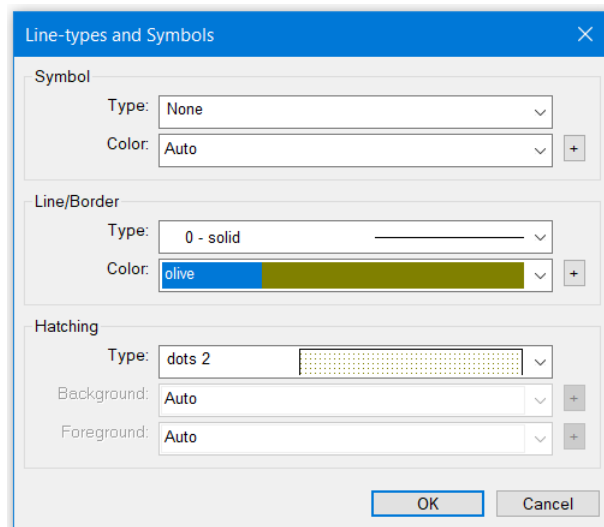

Figure 21-5: The *Line-types and Symbols* Dialogue Box Allows the user to Change Line Style (including symbols), Hatch Style and Color
9. Back in the *Template Display Format* dialogue, press the *Linetypes...* button on the right-hand side to open the *Line-types and Symbols* dialogue box (Figure 21-5).